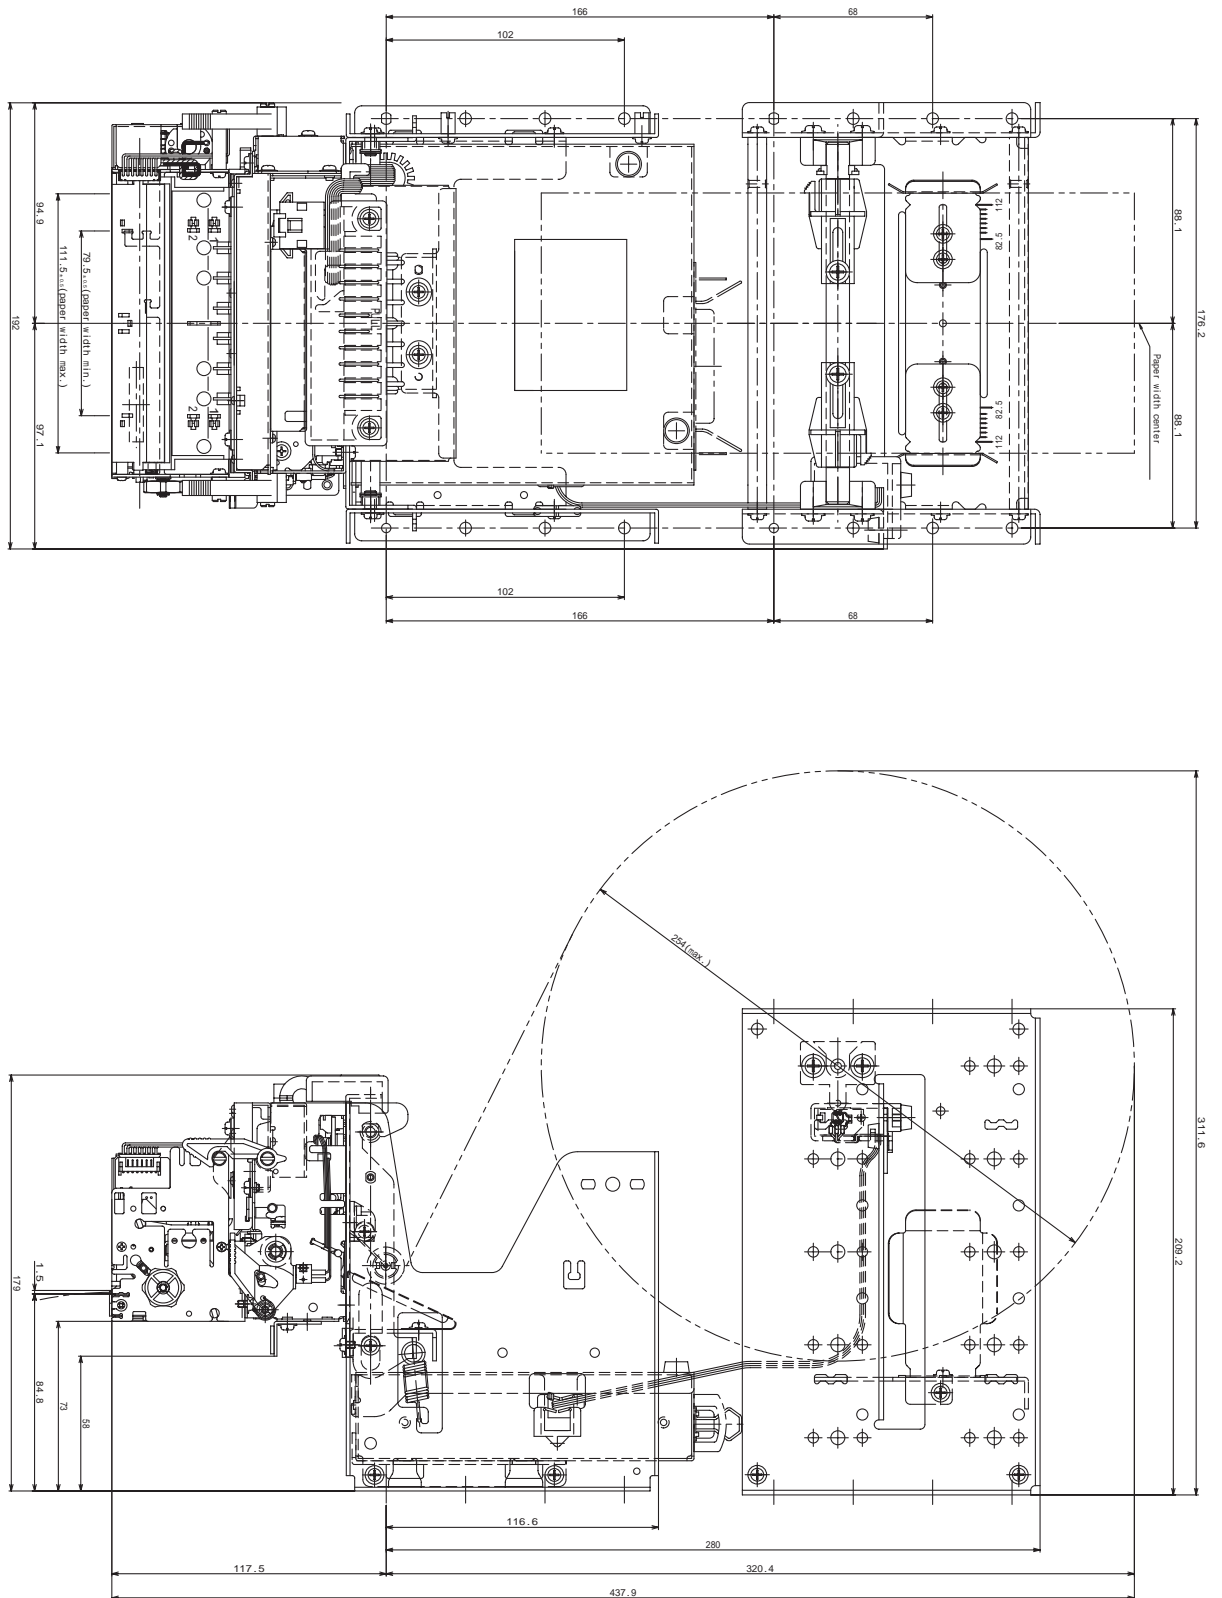

Fig. 7.2.1 Horizontal Layout
Fig. 7.2.1 on the separate sheet shows the recommended layout. Note that the maximum paper roll diameter that can be handled is $\phi 254$ mm, because of the arrangement of the apparatus in this layout.
3) When using the maximum diameter paper roll of $\phi 254$, it is recommended to separate the printer unit and high volume paper roll supply as much as is possible. Absolutely never setup closely, as shown in Fig. 7.2.1. This can cause paper transporting problems.